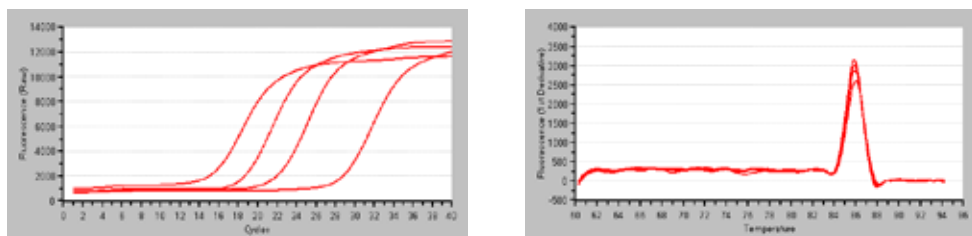
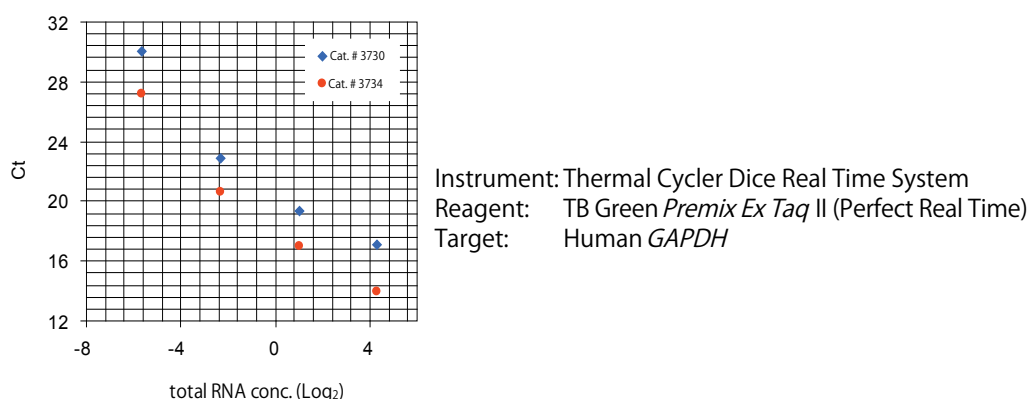

Figure 2B. Use of the 40-fold diluted cDNA amplification product as template
Figure 2C. Comparison of Ct values (10-fold diluted cDNA)
- (2) Figure 2A - C shows the detection of human *GAPDH* using real-time PCR. When 10-fold dilutions of each of the cDNAs were used as a template (Figure 2A), the background was observed to be somewhat increased with Cat. #3730, but target gene detection with a lower background was possible with the Ver.2 kit. When the cDNA was diluted 40-fold, the target gene was readily detected even with Cat. #3730 (Figure 2B). Comparison of the Ct values shown in Figure 2C indicate that the Ver.2 kit provides superior amplification efficiency.